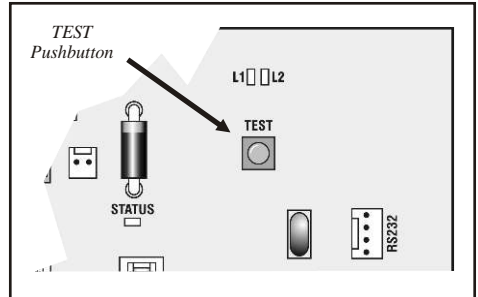

Figure 29 CP75 Controller TEST Pushbutton
15. Press and hold the TEST button (Fig 29) down for 1 flash of L1, and then release. L2 will go off, and L1 will now be flashing once per second.